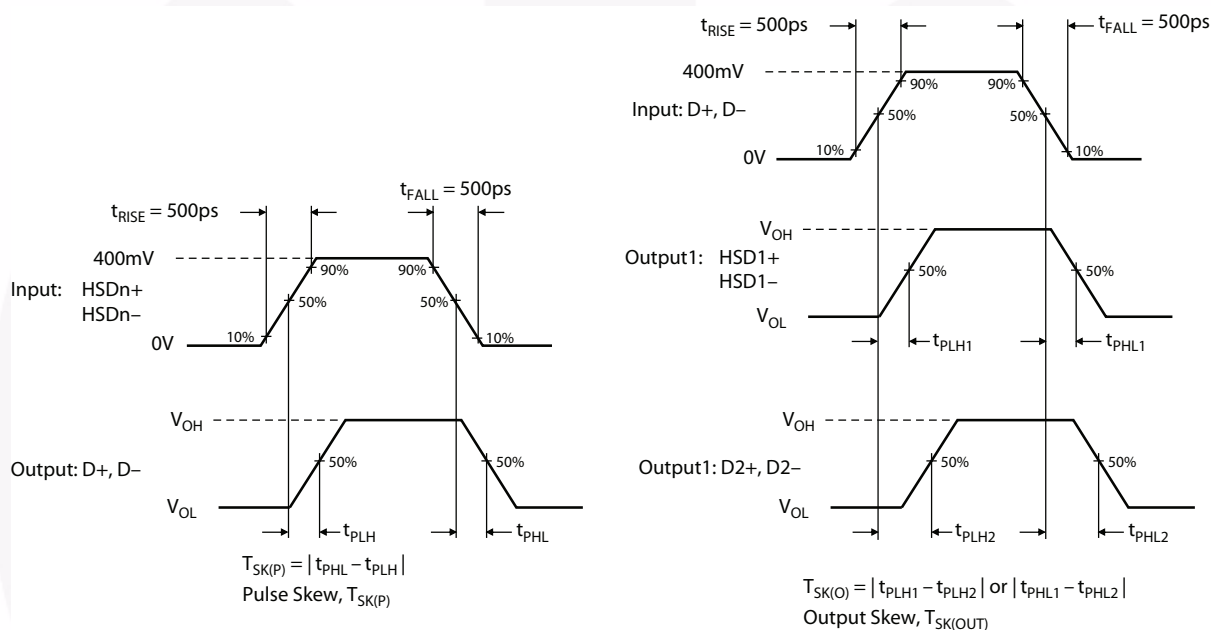

Figure 15. Switch Skew Tests
| t SK(O) | Channel-to-Channel Skew (6)                         | C L = 5pF                                                                                                               | 3.0 to 3.6          |                                 | 50.0 |      | ps   | Figure 11Figure 15 |
| t SK(P) | Skew of Opposite Transitions of the Same Output (6) | C L = 5pF                                                                                                               | 3.0 to 3.6          |                                 | 20.0 |      | ps   | Figure 11Figure 15 |